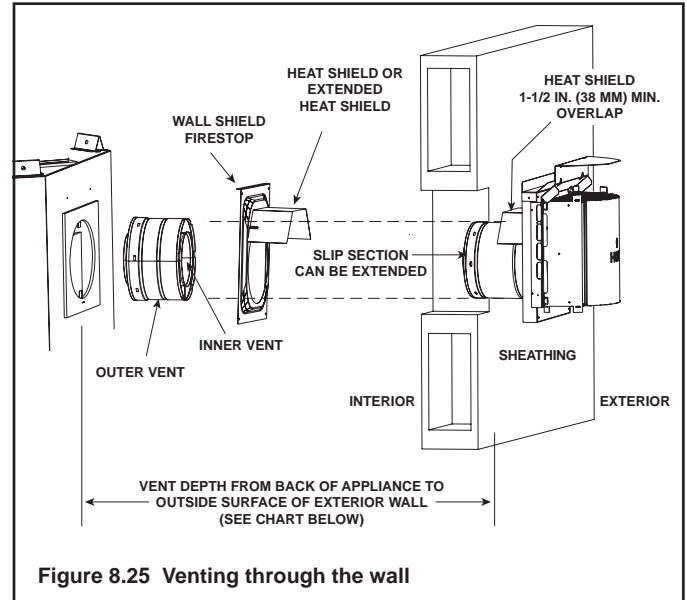

Figure 8.25 Venting through the wall
- **DO NOT** remove the heat shields attached to the wall shield firestop and the horizontal termination cap (shown in Figure 8.25).